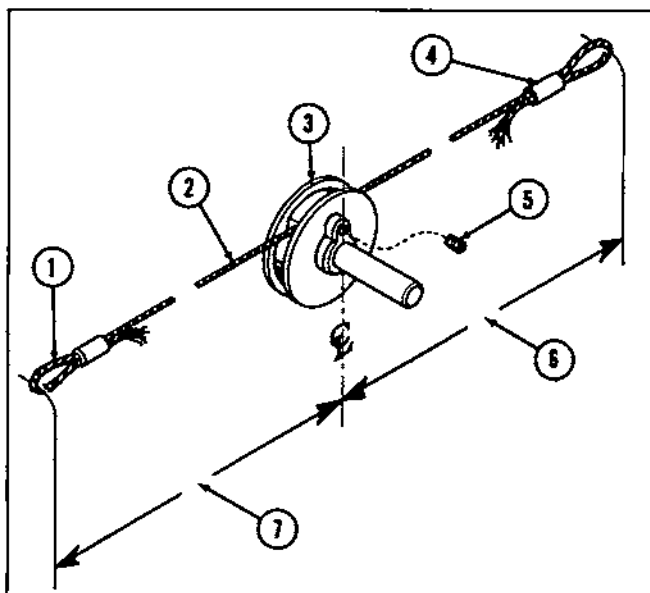

FIG. 70. INSTALLATION OF TURNTABLE CABLE
(1) The replacement Tone Arm and Turntable Actuating Cables have one loop formed at the factory. To install a new cable the defective cable must be removed. This is easily accomplished by cutting the old cable and loosening the Set Screw (Fig. 70, Item 5). The broken cable can then be removed from the Pulley (Item 3).
(2) The new cable (Item 2) should pass through the hole in the Pulley (Item 3) leaving the pre-formed loop (Item 1) to the left as viewed from the rear of the phonograph.
(3) Slide the cable clamp (Item 4) on the right hand end of the cable and form a loop 3/4" long. Secure with the cable clamp (Item 4).